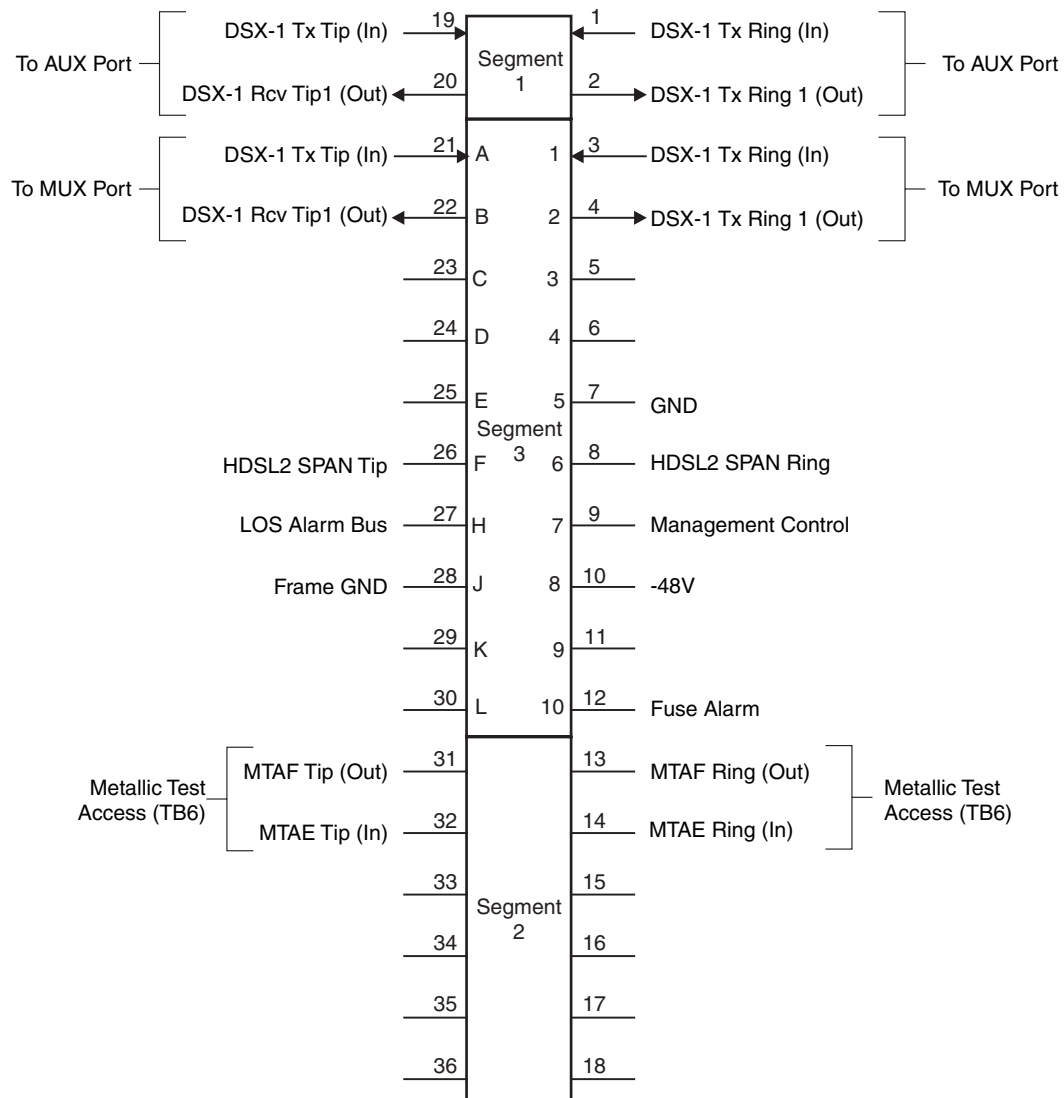

Figure 27. H2TU-C-319 List 2E Card-Edge Connector
Figure 27 shows the pin assignments of the card-edge connector on the H2TU-C-319 List 2E card. The function of its segments (S1, S2, and S3) are described beginning with “Test Access” on page 26. Note that only the set of Standard 3192 alphanumeric connector pins to Segment 3 (A through L and 1 through 10) are labeled on the backplane of the HMS-358 shelf. The outer set of pin numbers are for reference only and do not appear on the backplane. The AUX DSX-1 Segment 1 port can be accessed either by its wire wrapped pins or from mass connector P11 (TX) and P10 (RX) on the HMS-358 backplane.
Pin H on the card-edge connector, shown in Figure 27, is the H2TU-C-319 System Alarm output pin. The following notes apply to Pin H: